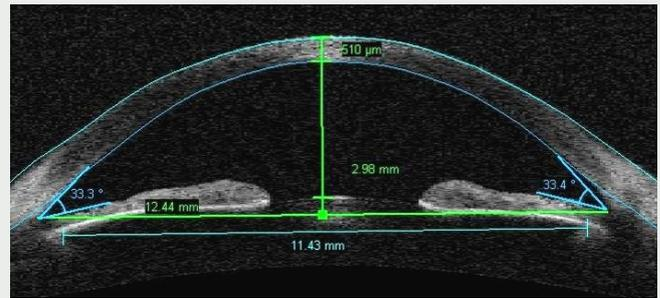

Figure 1
1. Patient selection: ICL patients should be from 21-50 years of age, and have healthy eyes (no glaucoma, lens, retinal, or other ocular health issues or pathologies...), with good ocular history. Hence, the doctor should do a complete eye check-up with a dilated fundus exam, and proper gonioscopy. Remember, the more data we have about the eye, the better knowledge we get about its health and the least problems. ICL patients should also have a stable refraction for at least 12 months since it is not convenient to exchange the ICL now and then with another one with different power. BSCVA should be better than 20/100 in order for the patient to realize the improvement in his vision. Also ICL patients should have an ACD > 2.8 mm with a wide angle. (Fig.1).